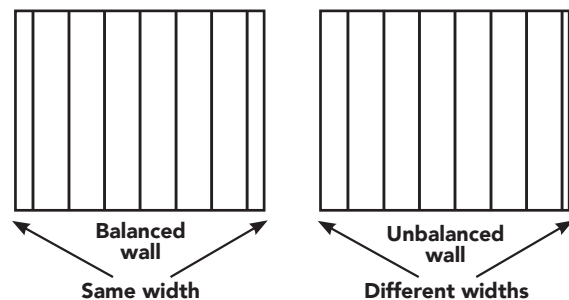

Figure 57
- To create a balanced appearance (Figure 57), divide the length of the wall by the exposure of the vertical panel to be used. For example, if the wall requires 20 full panels plus an additional 8" (203mm), then the first and last pieces installed would be cut to a new width of 4" (102mm). Make sure to allow for proper depth in the receiving channels of the accessories at both ends when measuring.
For application of vertical siding to gables, use the same method described in Figure 57 for a balanced appearance.